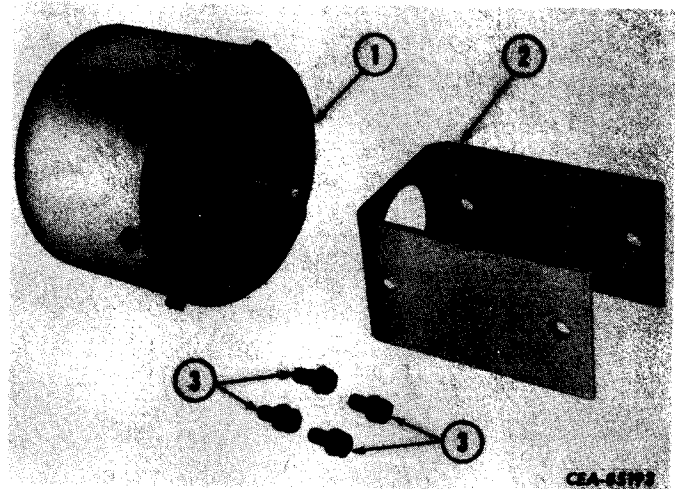

Figure 13-39
Place bracket (2, Fig. 13-39) on shell (1) and secure with cap screws and lock washers (3).